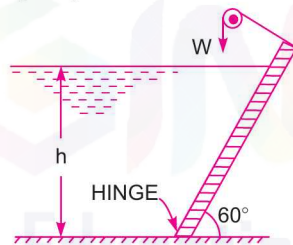

Fig. 3.54
14. A rectangular gate  $6\text{ m} \times 2\text{ m}$  is hinged at its base and inclined at  $60^\circ$  to the horizontal as shown in Fig. 3.54. To keep the gate in a stable position, a counter weight of 29430 N is attached at the upper end of the gate. Find the depth of water at which the gate begins to fall. Neglect the weight of the gate and also friction at the hinge and pulley.